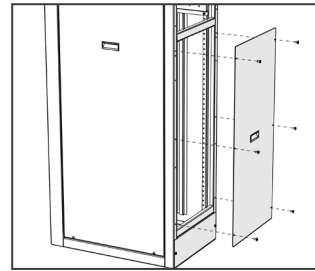

Figure 4. Larger rear panels
Step 2. Uninstall the (2) larger rear panels by removing the (12) #12-24 screws (see Figure 4).